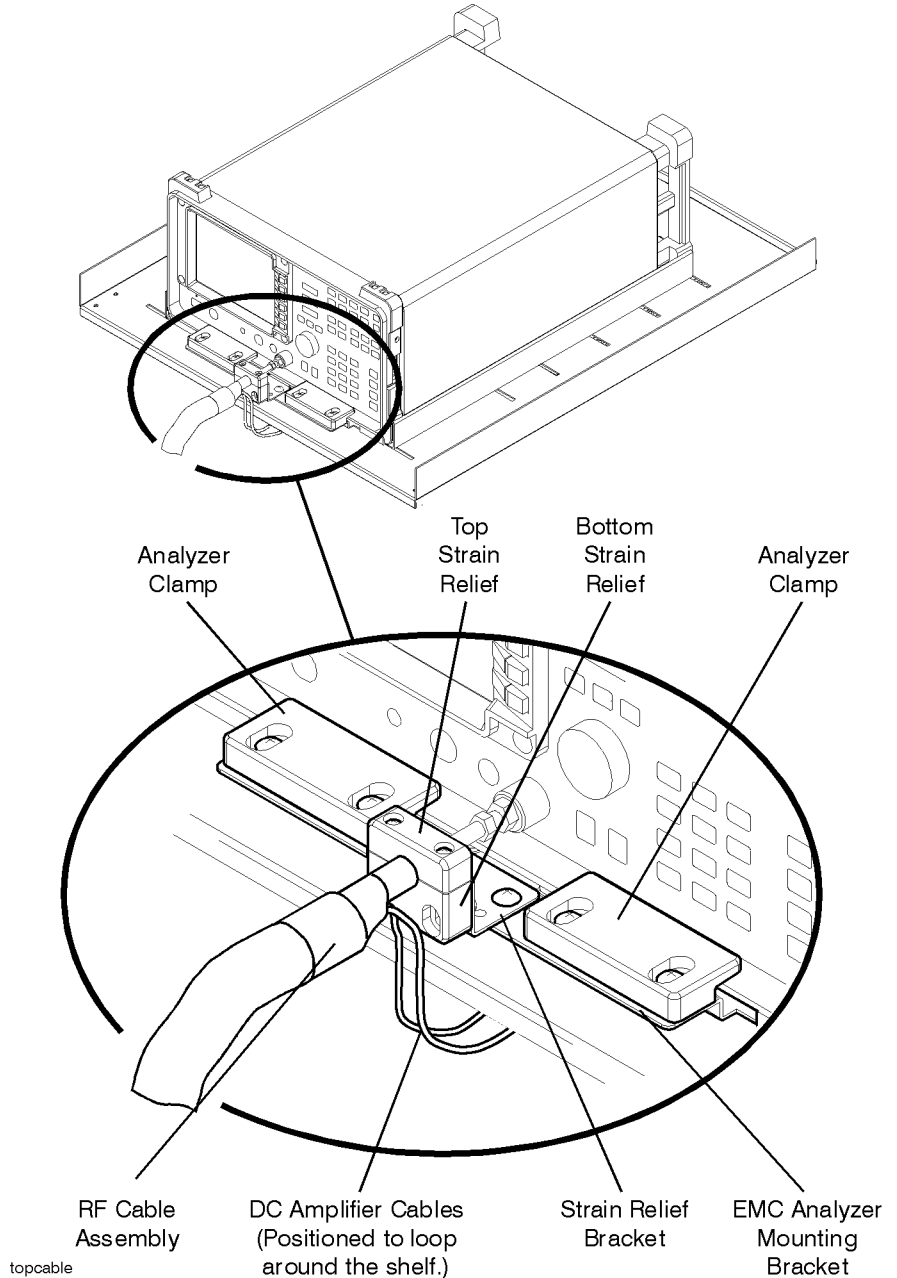

Figure 3-2. Front view of the EMC Analyzer
4. Position the analyzer clamps as shown in Figure 3-2 and loosely attach with four 4.0 mm X 16 mm screws.
Refer to Figure 3-2 for the following procedure.